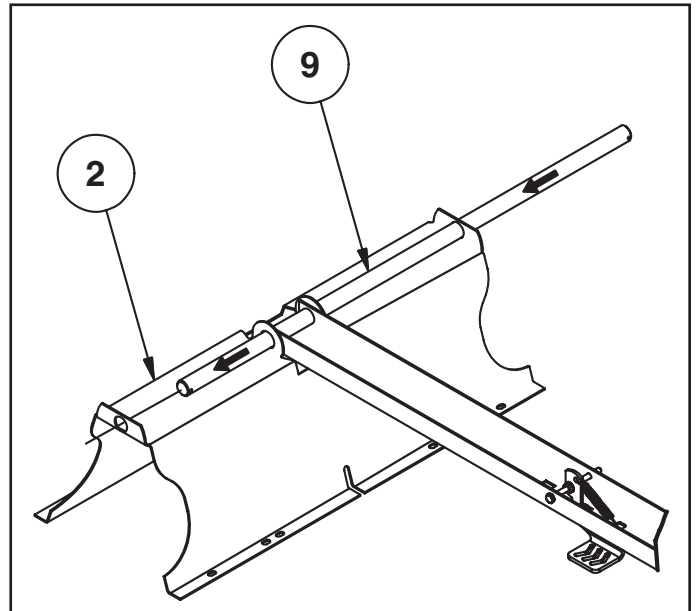

FIGURE 4
STEP 4: (SEE FIGURE 4)
- Lay the tongue (open side facing up) onto the wheel support (2). Assemble the axle (9) through the wheel support and the tongue.